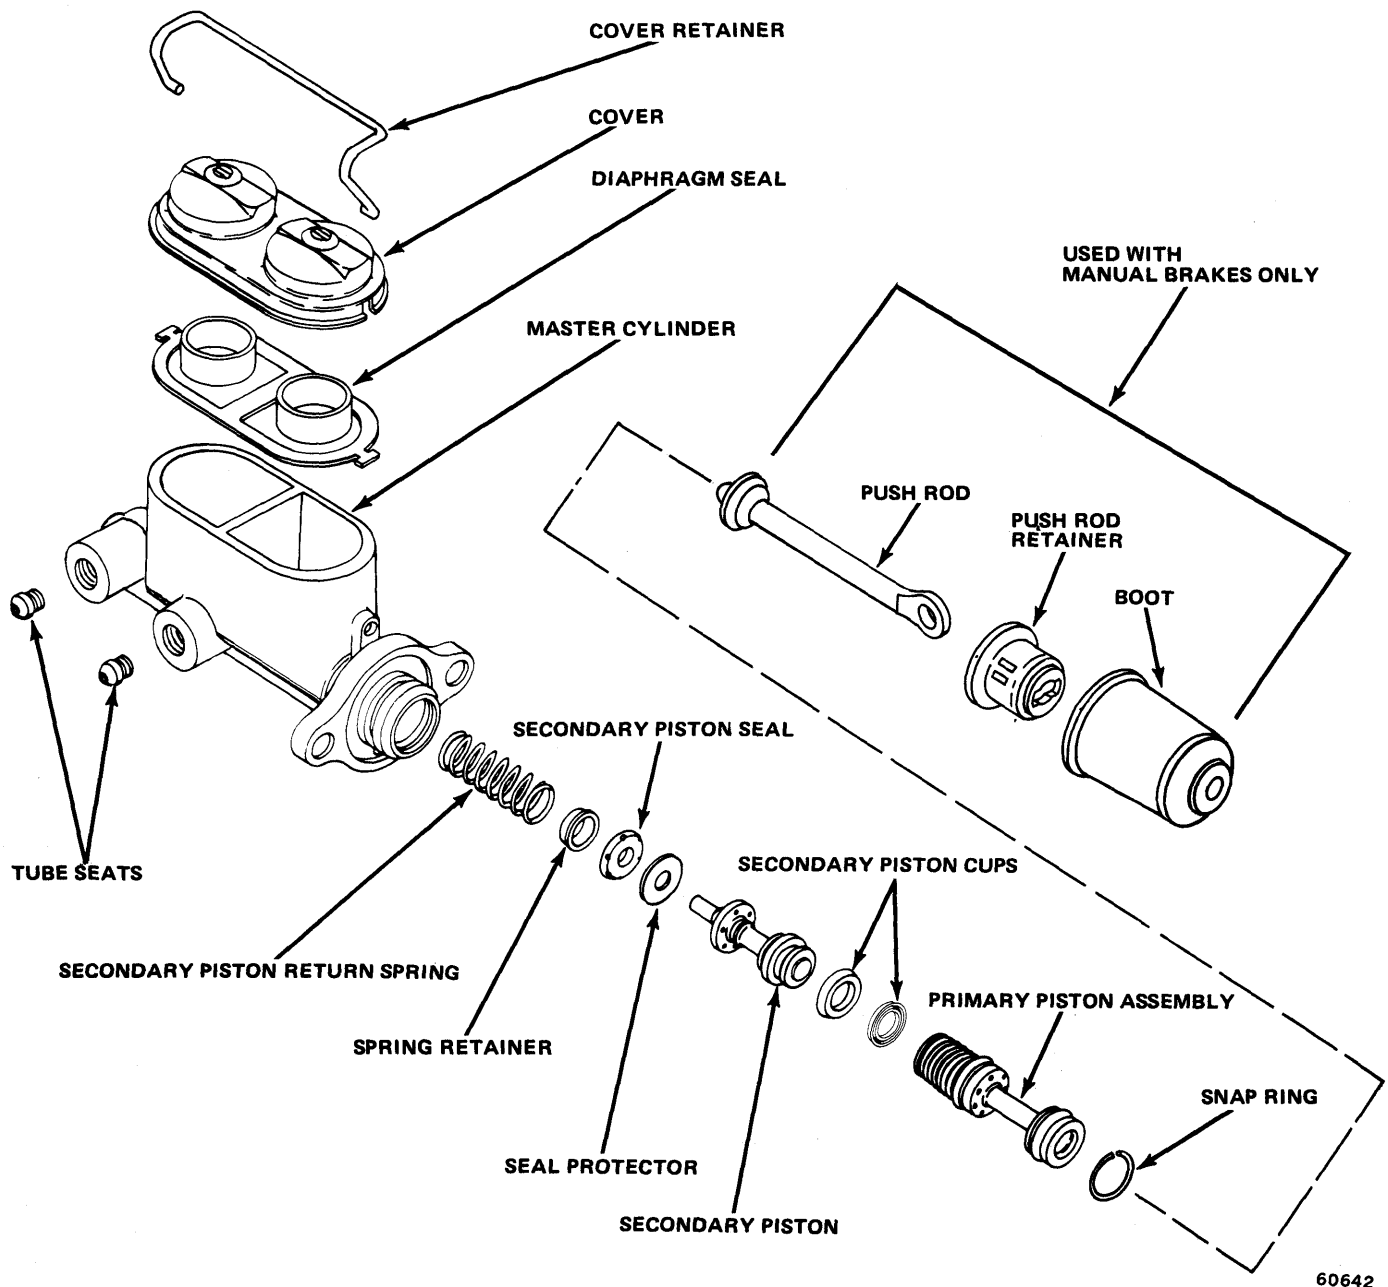

Fig. 9-4 Master Cylinder—CJ Models
(2) On vehicles with manual brakes, remove boot, push rod, and push rod retainer (fig. 9-4 and 9-5). On CJ models, remove retainer by straightening lock tab in side of retainer.
(3) Push primary piston inward with phillips screwdriver and remove snap ring from groove in master cylinder bore. Remove primary and secondary piston assemblies. Air pressure applied through compensator port in front reservoir will aid in removal of secondary piston assembly.
(4) Remove piston seal and piston cups from secondary piston. It is not necessary to disassemble primary piston assembly. Primary piston is supplied as complete assembly in repair kit.
(5) Clean and inspect master cylinder. Replace if bore is severely scored, corroded, or pitted. Replace if body is cracked, porous, or has sustained other damage. Check compensator and bypass ports in reservoirs. If plugged or dirty, open them using brake cleaning solvent and air pressure only. Do not use wire as wire may raise a burr in port or push burr into cylinder bore.
(1) Install replacement tube seats (if removed) using spare tube fitting nuts to press seats into place. Do not allow seats to become cocked during installation. Be sure seats are bottomed. Remove tube fitting nuts and check for burrs or chips. Remove burrs or chips. Rinse master cylinder in brake cleaning solvent and blow out all passages with compressed air.
(2) Install piston cups on secondary piston. Piston cup installed in groove at end of piston should have lip facing away from piston. Install next cup so lip faces piston (fig. 9-4 and 9-5).
(3) Install seal protector, piston seal, spring retainer, and return spring on secondary piston (fig. 9-4 and 9-5). Install piston seal so lip faces interior of master cylinder bore when assembly is installed. Be sure return spring seats against retainer and that retainer is located inside lip of piston seal.
(4) Lubricate master cylinder bore and secondary piston seal and cups with brake fluid and install secondary piston assembly in cylinder bore.
(5) Lubricate seals on primary piston assembly with brake fluid and install assembly in master cylinder bore.
(6) Push primary piston inward with phillips screw-